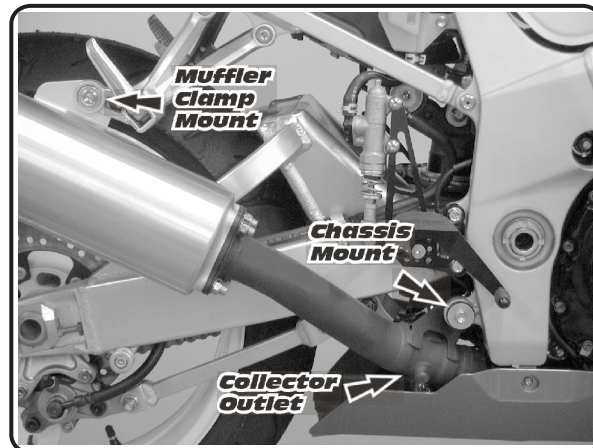

Fig. 1
- 2 Unbolt stock muffler and tail-pipe from passenger foot rest mount and frame chassis mount, then remove stock muffler assembly from collector outlet. (See Fig.1)